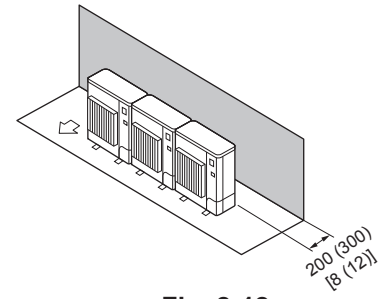

Fig. 2-12
- ⑦ Obstacles at rear, sides, and above only (Fig. 2-12)
- ① Obstacles at rear only (Fig. 2-12)